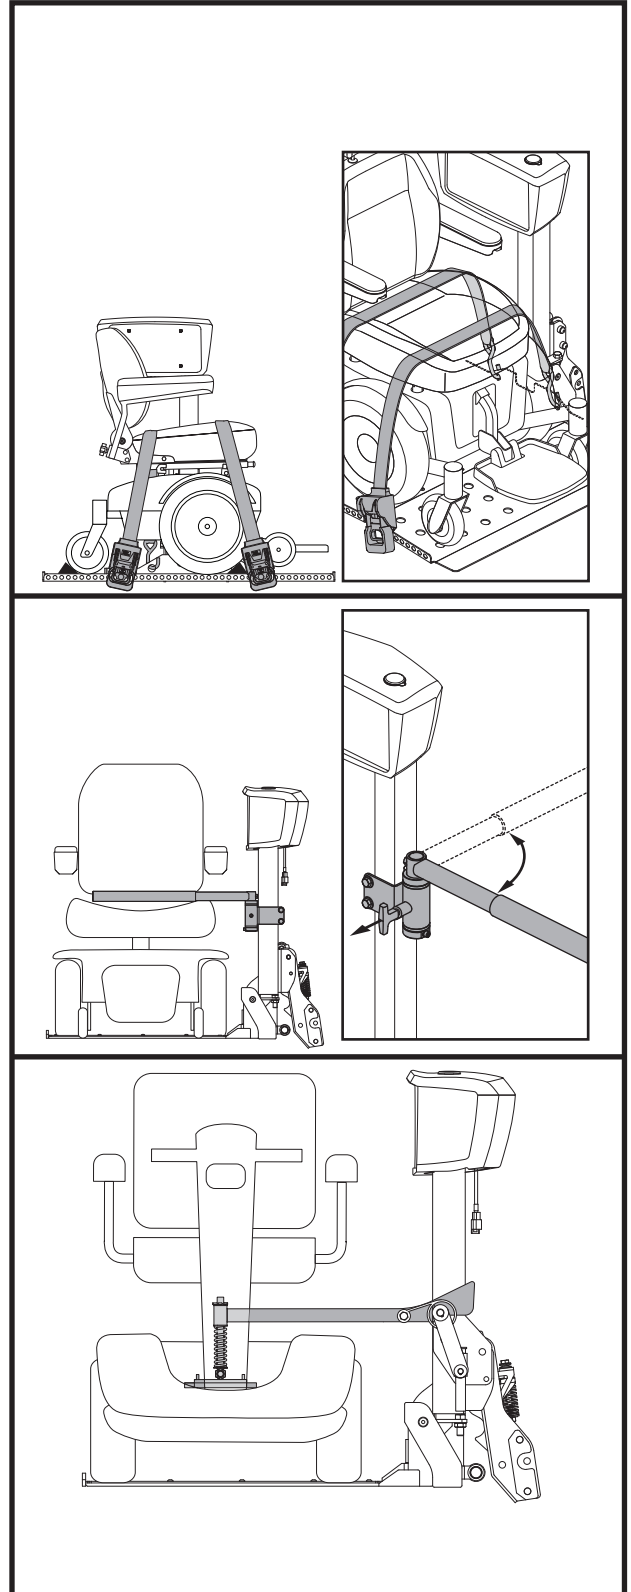

Figure 17. Securement of the Unit
- Pull the strap out and secure it to the opposite side of the platform. **See figure 17.**